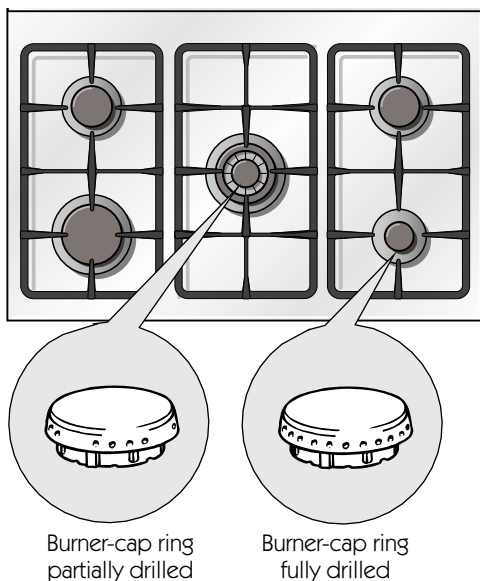

Fig. 6.1
**Special attention has to be paid in order not to exchange the housing of the two small burners shown in fig. 6.1. The burner caps can be interchangeable.**